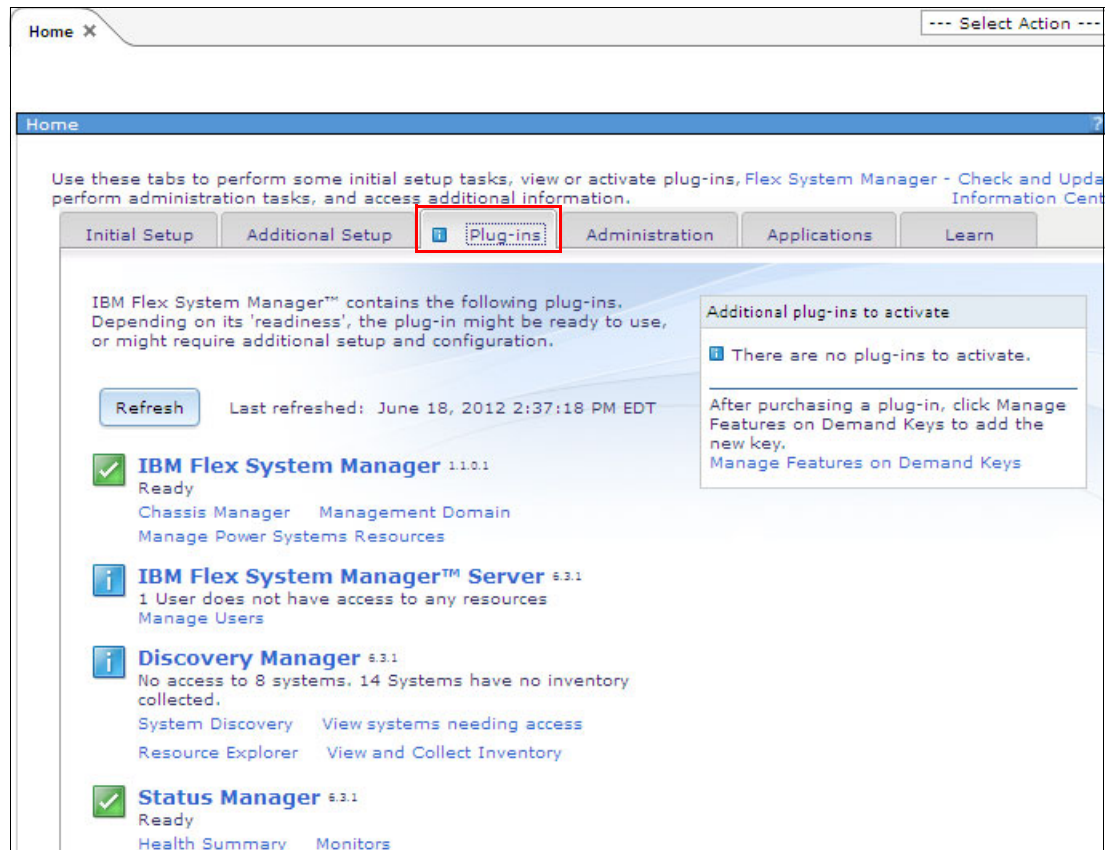

Figure 7-28 Plug-ins tab of FSM Home page
1. Navigate to the FSM Home page. Click the **Plug-ins** tab, as shown in Figure 7-28.